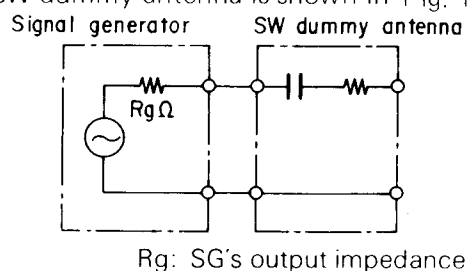

Fig. 12
7. SW dummy antenna is shown in Fig. 12.